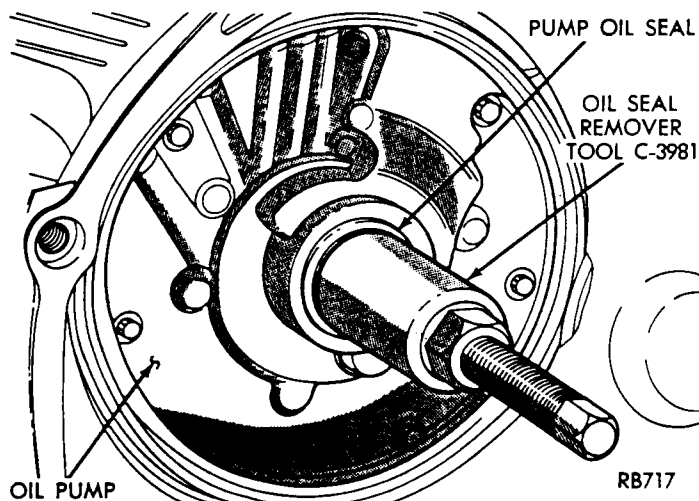

Fig. 1—Remove Pump Seal
(1) Screw seal remover Tool C-3981 into seal (Fig. 1), then tighten screw portion of tool to withdraw the seal.